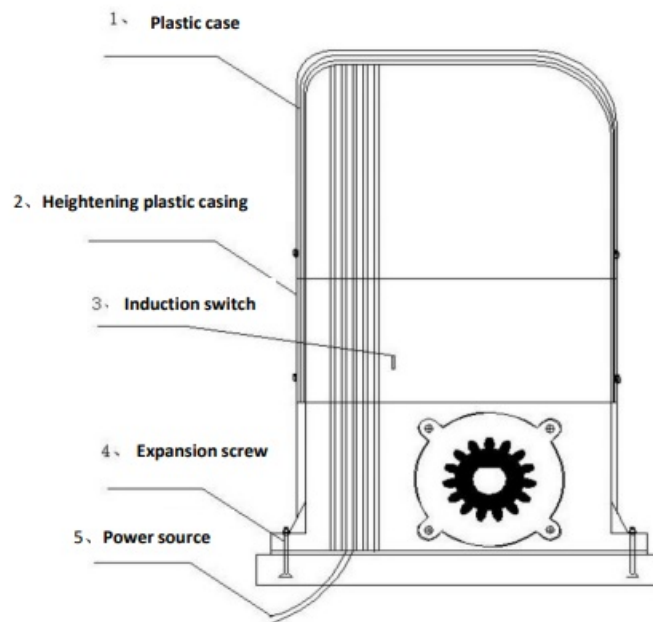
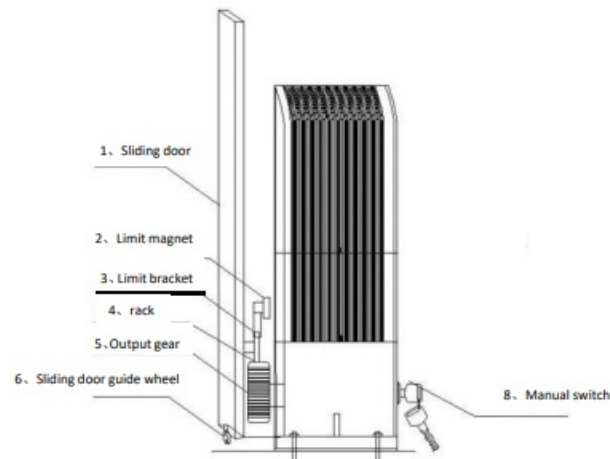
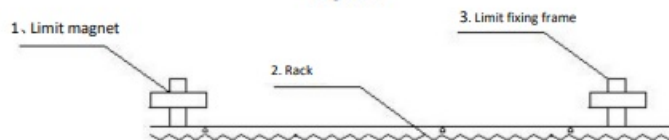

Figure 3
Figure 4
Figure 5
Follow the steps in Figure 3 for basic installation. Adjust the position according to Figure 4 after cement solidification. Securely tighten the nut on the installation foot for firm connection.
The basic installation of the door opening machine is shown in Figure 3, and the position relationship between the door opening machine and the translation door is shown in Figure 4. After the cement is solidified, place the door opener on the installation base plate. The installation base plate should be horizontal and adjusted to the appropriate position according to the direction shown in Figure 4. Then, the nut on the installation foot should be tightly protected to make the door opener firmly connected to the base.
3. Install the magnetic switch as shown in Figure 4 and Figure 5. The main engine is equipped with a magnetic induction (or spring) switch. Control the correct position for opening and closing doors. Use the special key to open the clutch control compartment, and then use the clutch handle to unload the clutch of the door opener (make the handle straight to 90 degrees); Push the translation door to the appropriate limit position at both ends manually, and preliminarily fix the assembled translation door limiter on the rack at both ends; (As shown in Figure 5) Please refer to the circuit board manual for details of the circuit installation and debugging.